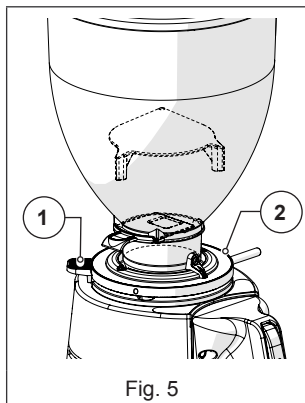

Fig. 5
- **Ring Nut Lock Lever (Fig. 5)**